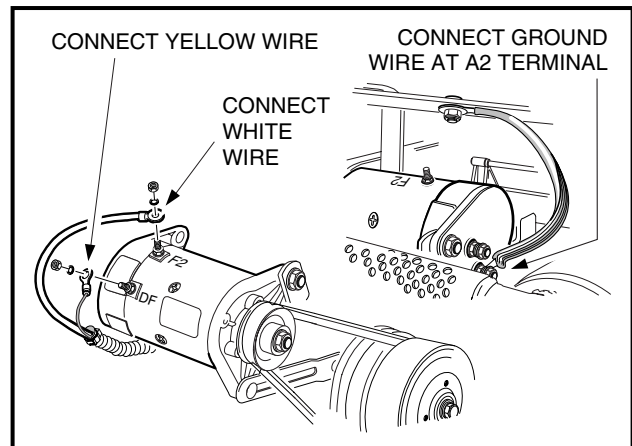

FIGURE 10-97
19. Connect 6 gauge white wire to the F2 post, the 6 gauge black ground wire to the A2 post, and the 16 gauge yellow wire to the DF post on the starter/generator (**Figure 10-97**).